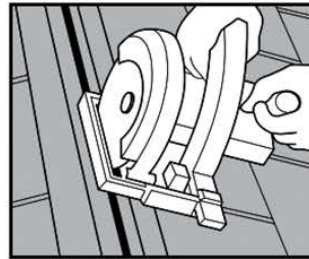

Fig. 1
Important: Start and end your cut 6 inches in from the rake edges (snapping chalk lines will aid in keeping a uniform ridge opening). Set your saw depth to cut the decking only. Do not cut into the roof framing. See Figure 1.
- 3) Expose the vent slot opening by removing the decking that was just cut between the rake edges. See Figure 1.